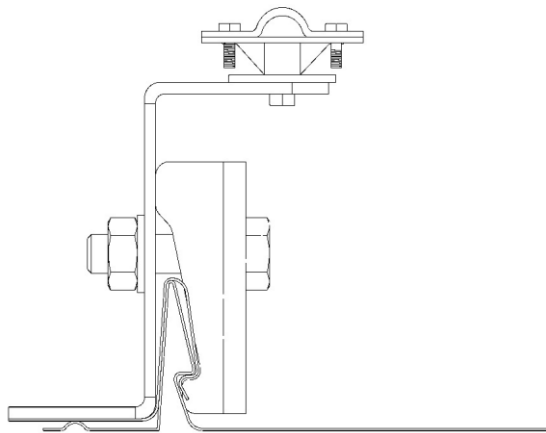

Figure 1.
- Install the Z-bracket plates on one side of the roof seam (Figure 1).
- Place the RP-bracket on the other side of the seam (Figure 1).
- Screw together using an M8x35 mm bolt screw, M8 nut, and washer (Figure 1).
- Tighten the screws such that the Z-bracket plate holds firmly on the roof material (Figure 1).
- Install the lightning rod wire fasteners on top of the Z-bracket plate and screw them together using the M8x20 screw (Figure 1).